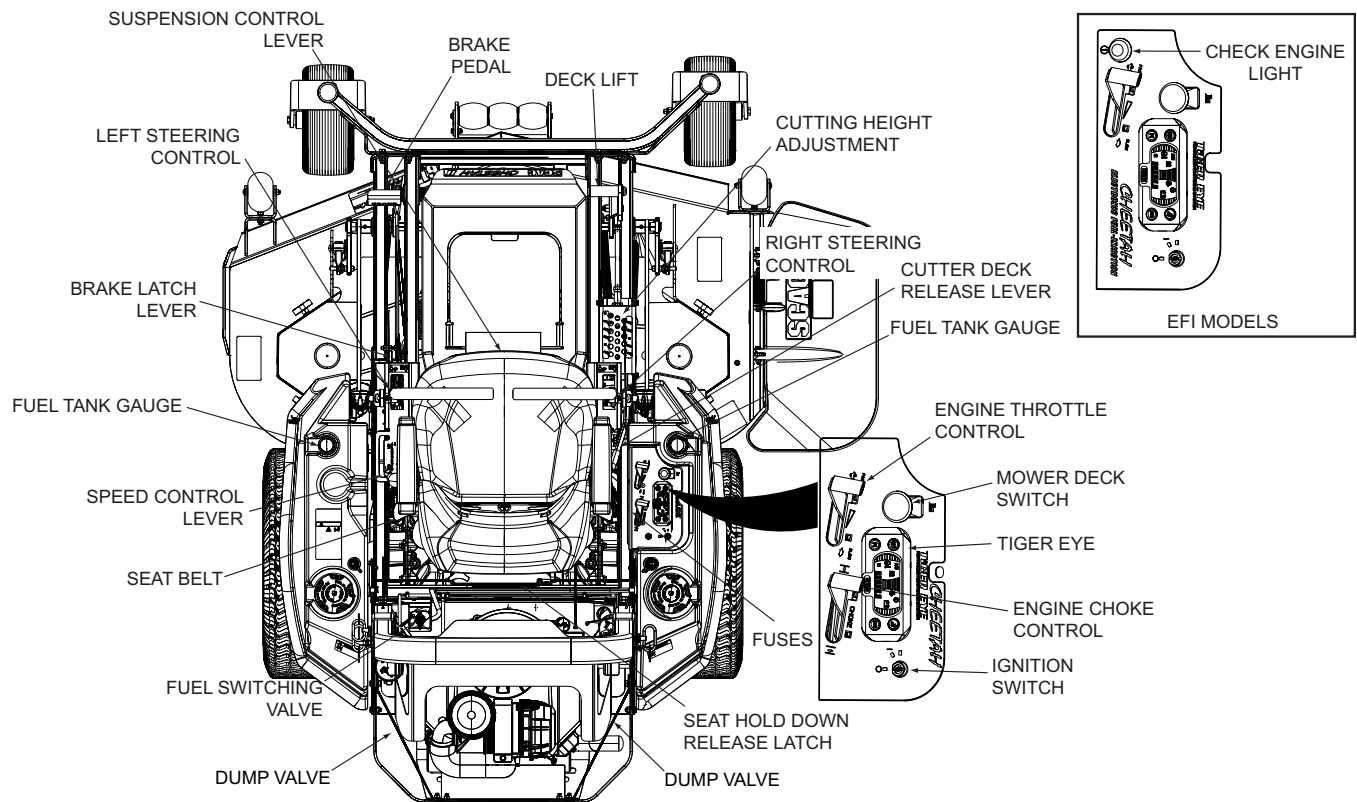

Figure 4-3. Controls and Instruments
1. **Ignition Switch (Figure 4-3).** The ignition switch is used to start the engine and has three positions; OFF, ON, and START.
2. **Mower Deck Switch (Figure 4-3).** Used to engage and disengage the mower drive system. Pulling up on the switch will engage the deck drive. Pushing down on the switch will disengage the deck drive.
3. **Engine Choke Control (Figure 4-3).** Used to start a cold engine.
4. **Engine Throttle Control (Figure 4-3).** Used to control the engine speed. Pushing the lever forward increases engine speed. Pulling the lever back decreases engine speed. Full back position is the IDLE position. Full forward is the cutting position.
5. **Left Steering Control (Figure 4-3).** Used to control the mower's left wheel when traveling forward or reverse.
6. **Right Steering Control (Figure 4-3).** Used to control the mower's right wheel when traveling forward or reverse.
7. **Fuse Holders (Figure 4-3).** Two 20-amp fuses protect the mower's electrical system. To replace fuses, pull fuse out of the socket and install a new fuse.
8. **Parking Brake Control (Figure 4-3).** Used to engage and disengage the parking brakes. Push the brake pedal forward and pull the brake latch lever back to engage the parking brakes. Push the brake pedal fully forward, then release, to disengage the parking brakes.
9. **Fuel Tank Gauge (Figure 4-3).** Indicates the amount of fuel in the fuel tank.
11. **Deck Lift Foot Lever (Figure 4-3).** Used to raise and lower the cutter deck. Push full forward to lock in the transport position.
12. **Cutting Height Adjustment (Figure 4-3).** Used to set the cutter deck at the desired cutting height.
13. **Deck Release Lever (Figure 4-3).** Used to lock the cutter deck in the transport position. Push the foot pedal forward and pull back on the release lever to release the cutter deck for normal mowing.
14. **Speed Control Lever (Figure 4-3).** Used to select the mowers operating range. For the best performance while cutting, the LOW speed should be selected. HIGH speed should be selected for transport operation.
15. **Suspension Control Lever (Figure 4-3).** Used to select the optimum suspension rate based on the operator.
16. **Seat Belt (Figure 4-3).** Used to secure the operator. Seat belt must be worn at all times when the ROPS is in the upright and locked position.
17. **Seat Hold Down Release Latch (Figure 4-3).** Located behind the seat. Used to secure the seat in the operator's position. Release the latch to gain access under the seat.